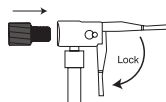

Fig. 2
1. Attach the Presta adaptor to the quick connector of the air hose. Push the lever of the air hose to lock it into place (see Fig. 2).